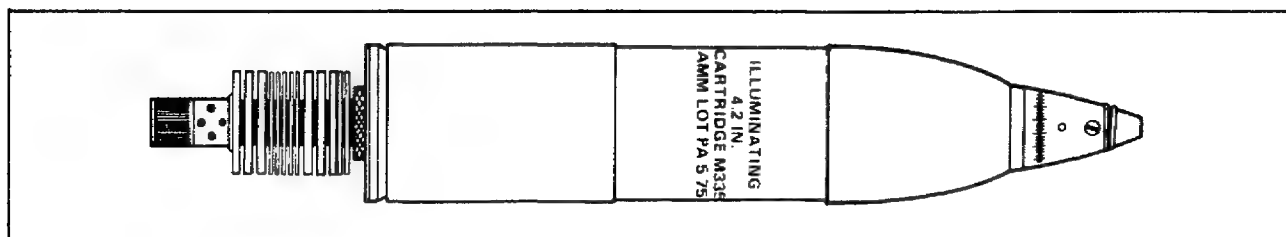

Figure 35. 4.2-Inch Illuminating Mortar Cartridge.
**4.2-Inch Illuminating Mortar Ammunition.** The 4.2-inch illuminating mortar cartridge is shown in Figure 35. This cartridge uses a time fuze and a black-powder expelling charge. The filler consists of illuminating charges and a parachute. When the fuze functions at a pre-designated time after firing, the entire payload is expelled from the base. The illuminating charge is ignited, and the parachute opens. The burning illuminating charge provides light as it descends by parachute.